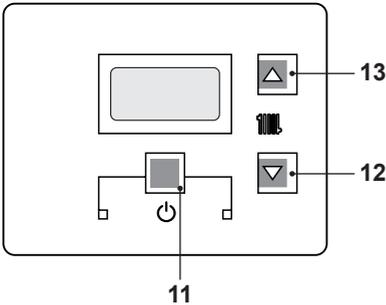
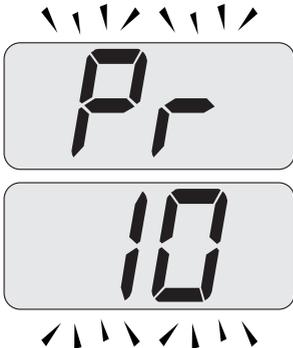

Fig. 7.32
Fig. 7.34
- Enter the "programming mode" by pressing keys 11 - 12 - 13 (Fig. 7.32) for 10 seconds at the same time until the letters **Pr** that alternate with code **01** are displayed on the LCD display, indicating that "parameter 01" (Fig. 7.33) has been activated.
- Press keys 11 and 13 (Fig. 7.32) at the same time until the value of parameter 10 (30=180 seconds) is displayed on the LCD display (Fig. 7.35).
- Scroll the various parameters using keys 12 or 13 until the letters **Pr** that alternate with code **10** are displayed on the LCD display, indicating that "parameter 10" (Fig. 7.34) has been activated.
- By pressing key 11 (Fig. 7.32) confirmation of the inserted value is obtained.
- Press keys 11 and 12 (Fig. 7.32) at the same time to exit without changing the value (return to the parameters list Fig. 7.34).
- Press keys 11 - 12 - 13 (Fig. 7.32) at the same time for 10 seconds to exit the "programming mode".